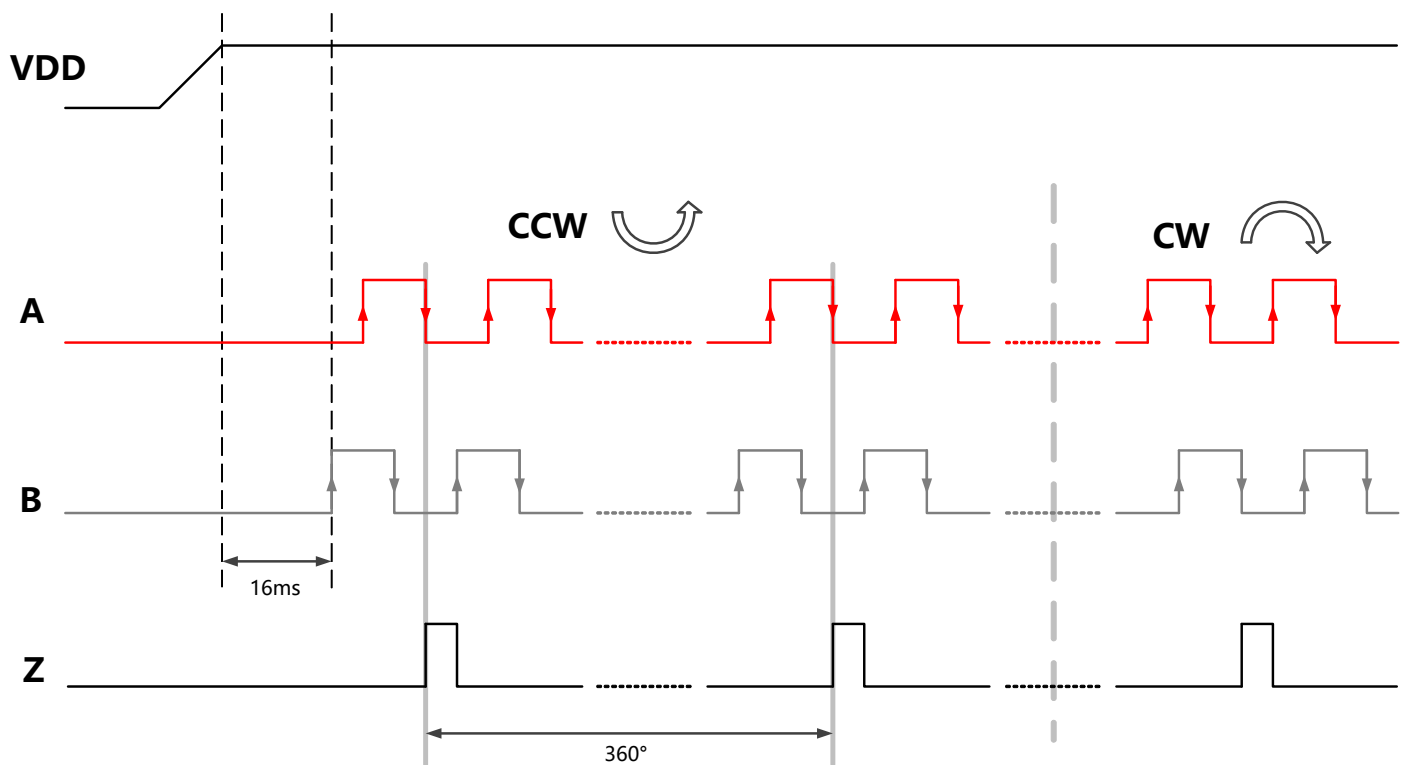

Figure 7: ABZ output with VDD power on
As shown in Figure 7, when the magnet rotates counter-clock-wise (CCW), output B leads output A by 1/4 cycle, when the magnet rotates clock-wise (CW), output A leads output B by 1/4 cycle (or 1 LSB). Output Z indicates the zero position of the magnet.